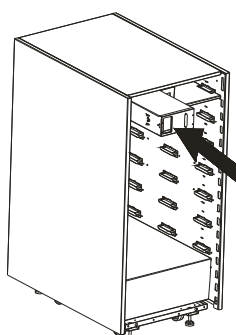

Fig.5
- 2) Insert the Communication Module into the bay at the top left corner of the frame (Refer to Fig.5).